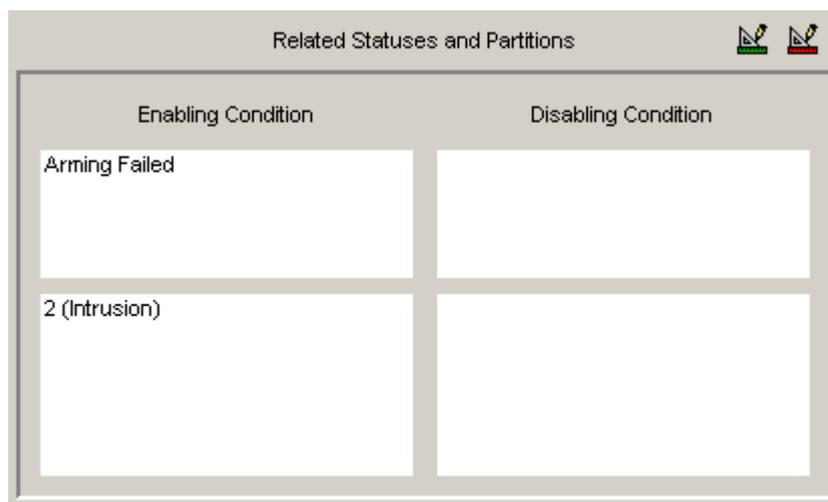

Figure 59
- ✓ *Define an initial status for the access mode for readers and (optionally) a textual description for the scenario* in the Inspector window (see Figure 59). Initial Status can have one of the two values “Unspecified” and “Controlled Access”. The Initial Status describes the condition of readers they have when no scenario condition is true. The “Unspecified” value means that a reader receives no centralized commands from the console.
After specifying the partitions and their statuses click OK. The defined part of the condition will be displayed in the Related Statuses and Partitions window (see Figure 59).